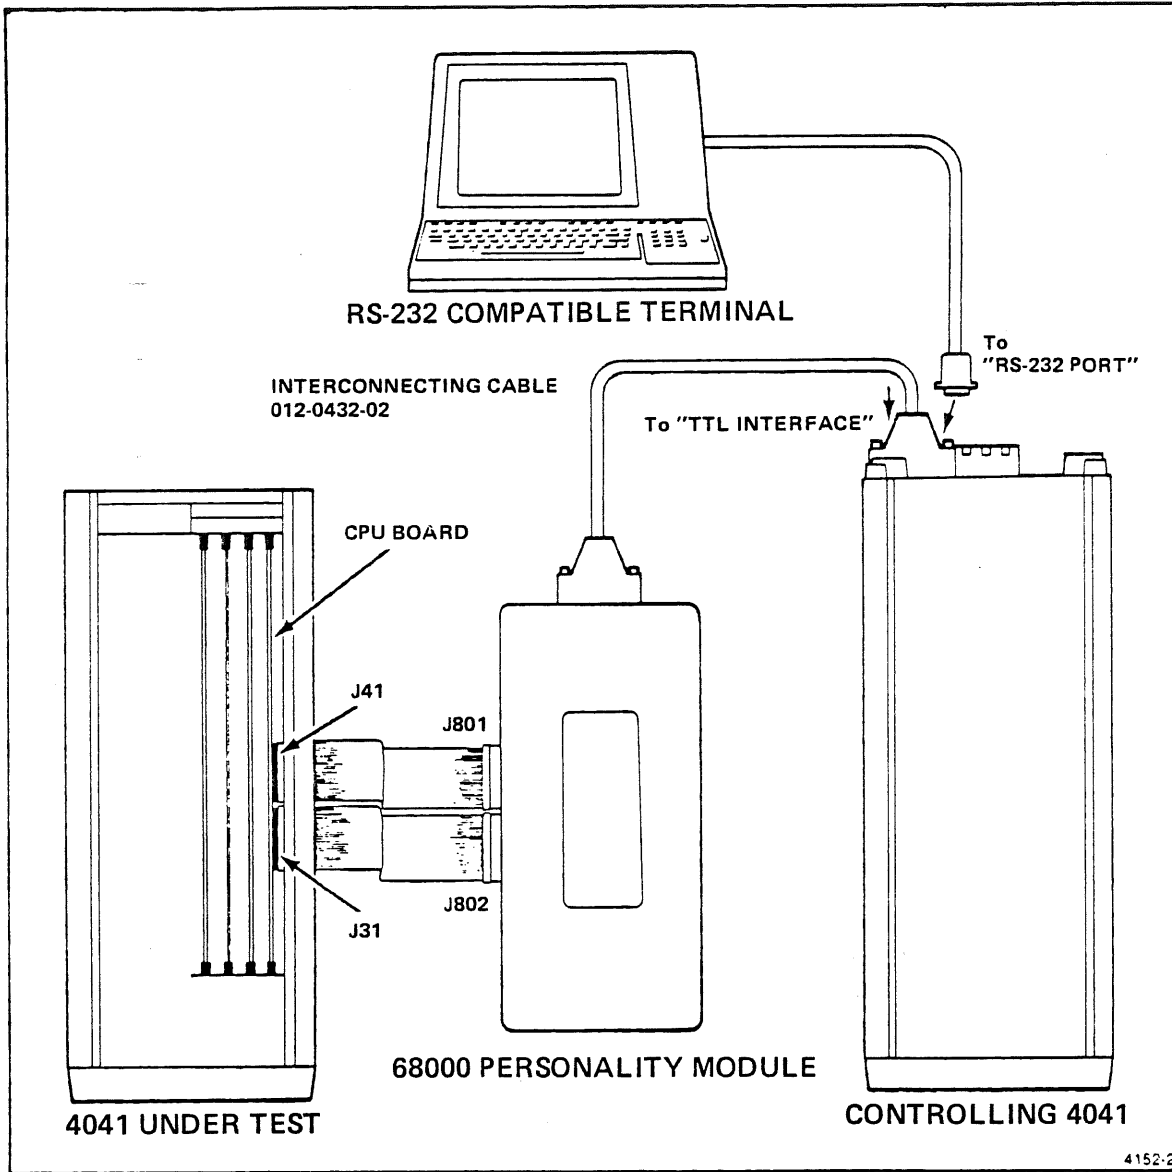

Figure 2-2. Connecting the Test Fixture.
4. Using the two ribbon cables supplied with the Personality Module, connect J801 on the personality module to J41 on the 4041's CPU board. Connect J802 on the personality module to J31 on the CPU board. J31 and J41 are located near the top edge of the CPU board. (See Figure 2-2).